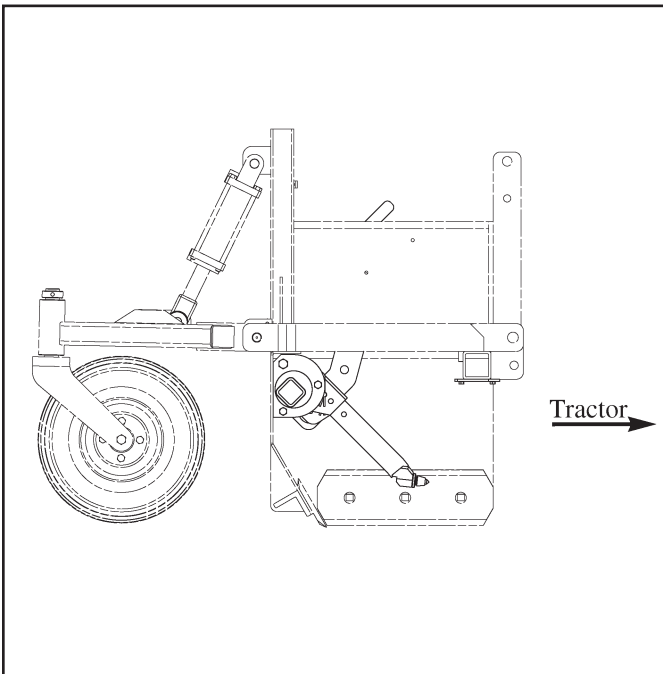

Figure 3. Side View Scarifier
5. Slide mounting blocks on the scarifier tube so that the scarifier bar bullet teeth would be pointing towards the front of the box (toward the tractor). Lift mounting blocks into place and insert 1/2"- 13UNC x 2" long bolts into the top holes See Figure 3.